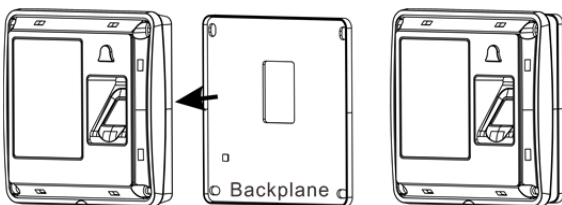

Figure 4
**2.1.3** That the backing plate bonded to the bottom cover with the device; insert the terminal blocks into the corresponding interface of the device (Figure 4);